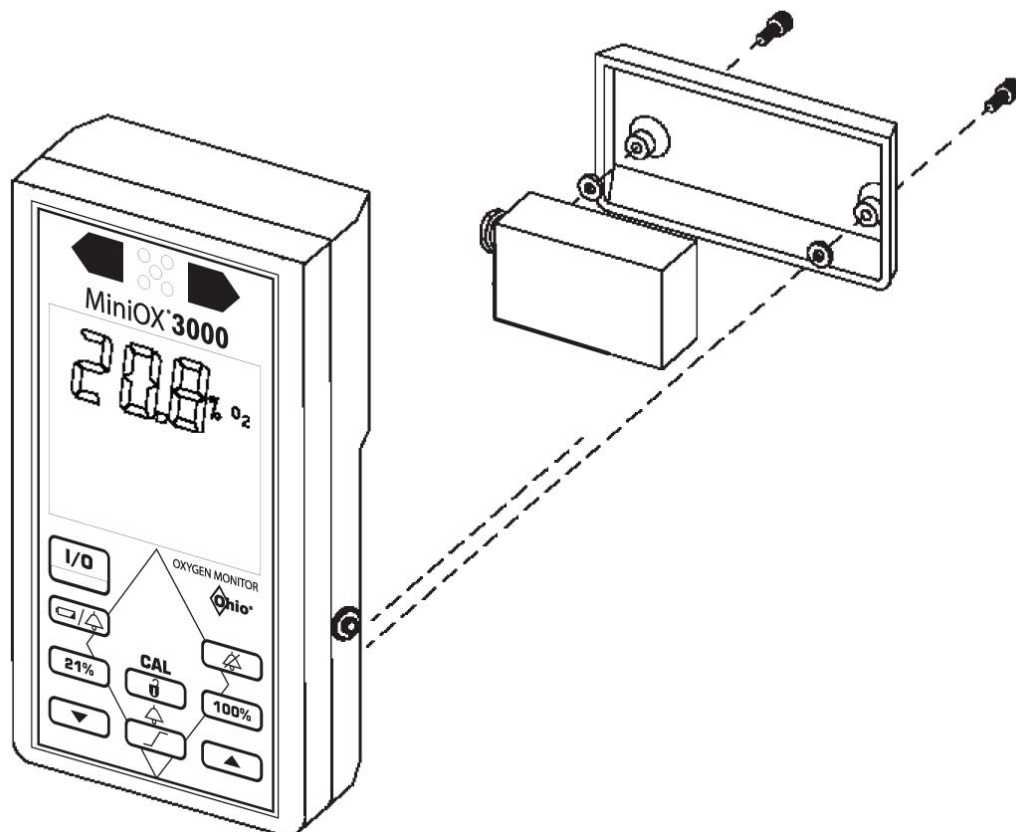

Figure 4-1
3. Unscrew the two screws on the battery cover in the back of the instrument and remove cover. See Figure 4-1.